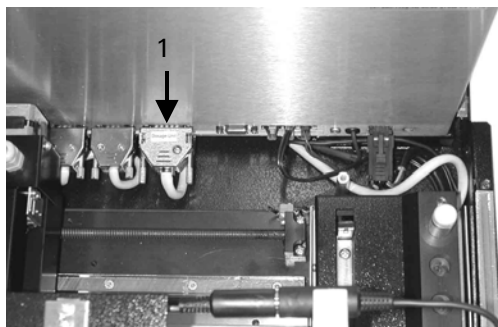

FIGURE 3-5 Disconnecting the Dosage Module
- d) Disconnect the connector of the dosage unit (FIGURE 3-5).